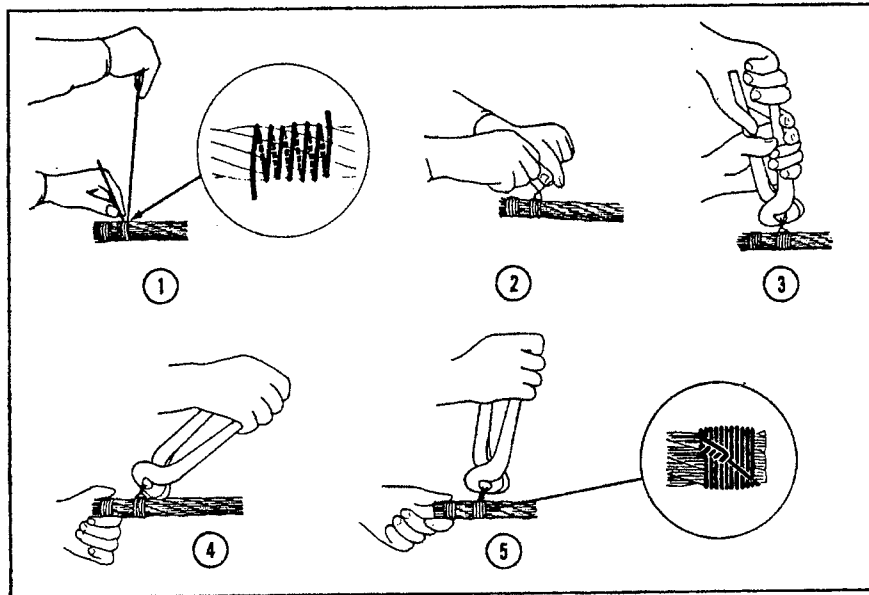
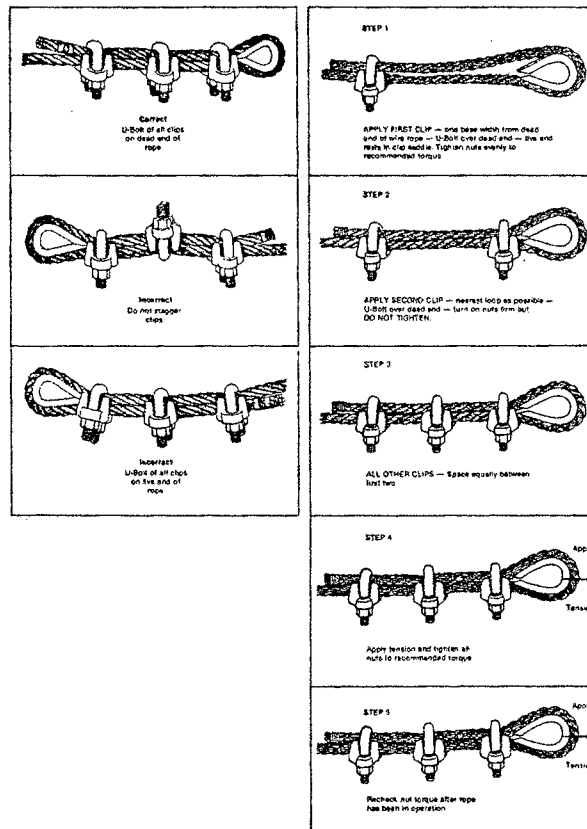

Fig. 2-14 Applying wire rope seizing
Fig. 2-15 Attaching wire rope clip
- (1) To make a seizing on wire rope, wind annealed iron seizing wire onto the rope by hand, keeping the coils tight, with considerable tension on the wire (See **Figure 2-14**).
- (2) Twist the ends of the wire together counter-clockwise, so the twisted portion of the wires is near the middle of the seizing.
- (3) Do not try to tighten the seizing by twisting; tighten the seizing by prying the twist away from the axis of the rope.
- (4) Tighten the twist again.
- (5) Repeat (3) and (4) as often as necessary to make the seizing tight. When done, cut off the ends of the wires and pound the twist close against the rope.
- b. When attaching wire rope clips, be sure that the U-bolt rests on the short or bitter end of the rope and that flat base rests on the tension part (See **Figure 2-15**). Otherwise, the rope will be injured by putting a crimp into the tension side. Never stagger the wire rope clips. Clips should be spaced a distance apart equal to 6 times the diameter of the wire. After attaching a clip on a wire rope, tighten all nuts again after the rope is under tension. Tighten them again after the rope has been in operation for a few hours. When inspecting clip fastenings, it is important to examine the rope at the clip farthest from the bight. Rope vibrations or whipping are dampened here, and fatigue breaks develop. Fatigue damage will be less pronounced with pre-formed rope.